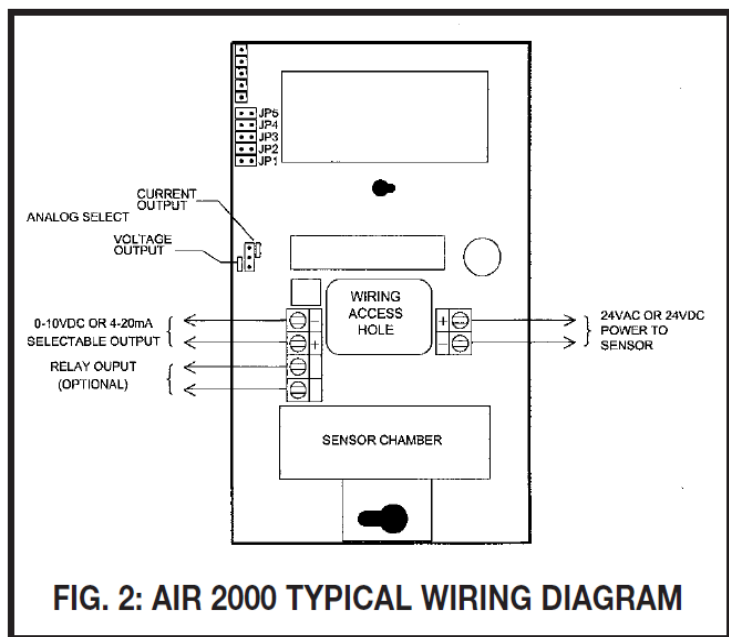

FIG. 2: AIR 2000 TYPICAL WIRING DIAGRAM
- 1) AIR 2000-Locate a flat mounting surface in the area where the presence of carbon dioxide is to be monitored or controlled. Locate away from direct fresh air intakes where a temporary clearing of CO₂ concentration may occur and mount approximately (5) five feet above the floor.
- 3) The sensor analog output terminals (0 to 10V or 4 to 20 mA) are shown in fig. 2 as the top two terminals on the left of the wiring access hole. Polarity is shown as the top two terminals being negative (-) and the second terminal being positive (+). The optional relay contact terminals are the lower two terminals located on the left side. The power input terminals on the sensor are the two located to the right of the wiring access hole. Power can be either 24VAC or 24VDC. If 24VAC is used with multiple sensors, make sure "H" goes to (+) terminal and "N" goes to (-) terminal on all sensors. If 24VDC is to be used, ensure correct polarity. TOXALERT recommends the use of #18 gauge wire for wiring the sensor.
B.) **Note whether the shorting block at jumper JP5 is covering both pins or only a single pin, then borrow the shorting block and slide it over the two pins of jumper JP4 (see figure 2).**